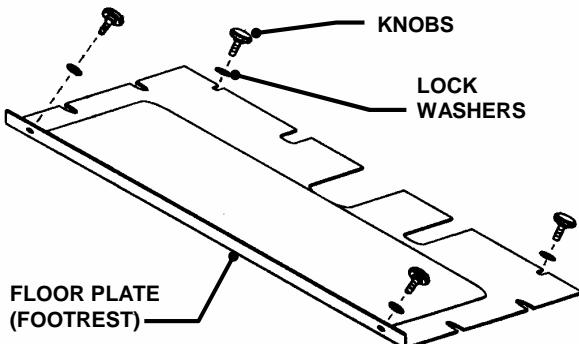

FIGURE 3.3
- c. Remove footrest. See Figure 3.3.